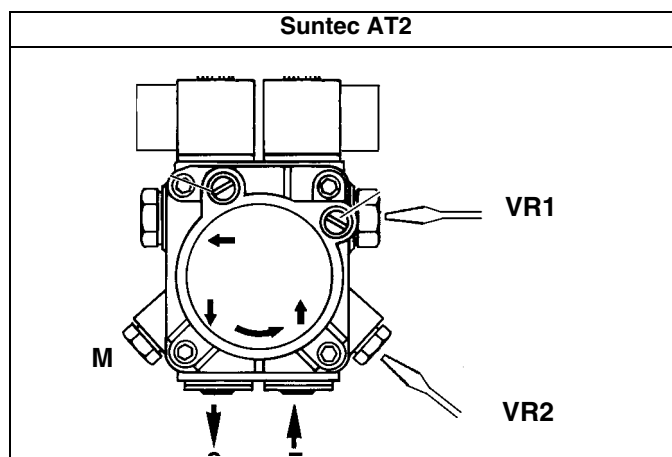

Fig. 16
- bleed the air from the **M** pressure gauge port (Fig. 16) by loosening the cap without removing it, then release the contactor.